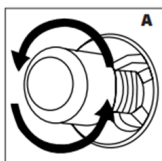
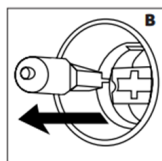

Figure 24
Figure 25
3. Then remove the oven lamp by turning it (see fig. 24) if it is type A, or by pulling it (see fig. 25) if it is type B.